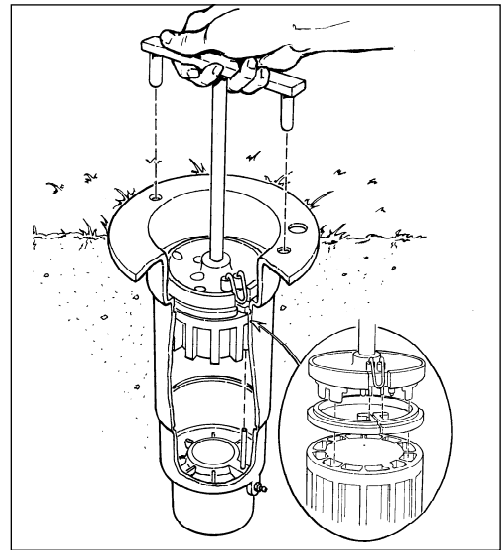

Figure 4
3. To reinstall valve assembly with snap ring and to prevent damage to the communication tube in sprinkler body, use valve insertion tool (P/N 995-10). Valve insertion tool will automatically line up valve assembly with sprinkler body communication tube and correctly seat the snap ring. (See **Figure 4**.)
NOTE: It is possible to install the snap ring backwards (upside down). See inset in **Figure 4** to insure that snap ring is placed on the insertion tool in the correct manner.